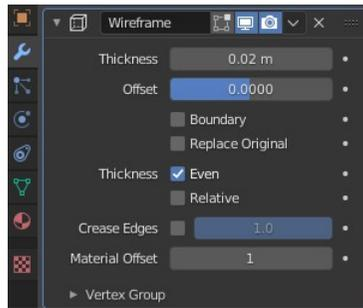

Figure 2-15 Wireframe modifier
1. Select the lower domes object, then the Modifiers tab, and look down at the options on the Wireframe modifier you added previously (Figure 2-15). One checkbox defaults to Replace Original object when the wireframe is created, so un-check that. Another option, Material Offset, allows one material to be used for the wireframe and a different one for the original object. This enables you to set a volume shader to give the effect of light scattering from an atmosphere but still keep the frame as a solid surface, so set this to **1**.